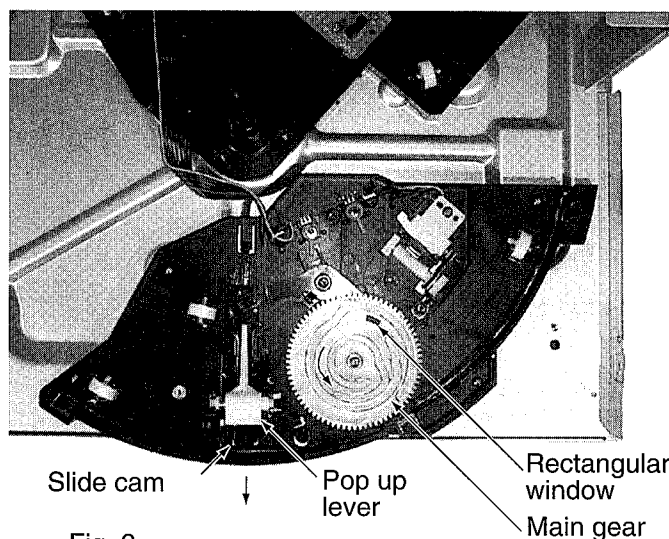

Fig 9
- 2) Mount (by screws) the main gear search that the rectangular window faces in the direction shown in figure 9.